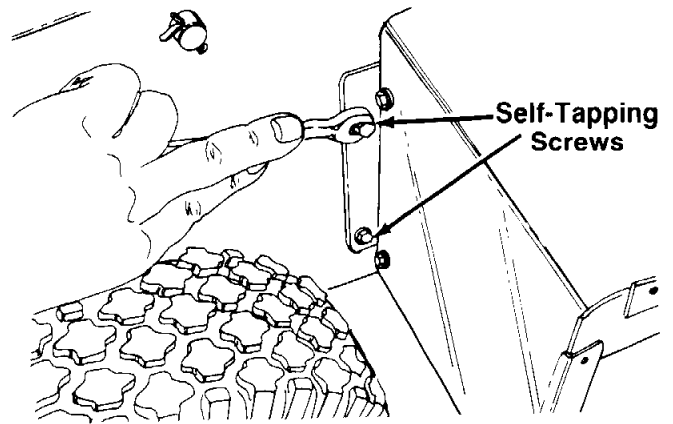

FIGURE 28.—Model 31340
- c. **All Models:** Remove the belt cover on the back of the auger housing by removing two self-tapping screws as shown in figure 28 on Model 31340. On Models 31353 and 31383, remove one self-tapping screw. Lift off the belt covers.